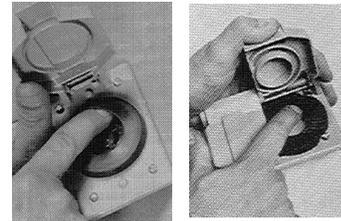

Figure 4
4. From front of cover assembly, using a finger in a wiping motion, push inside sealing lip of gasket around the outside of the receptacle so it penetrates the gasket evenly. (See Figure 4.)